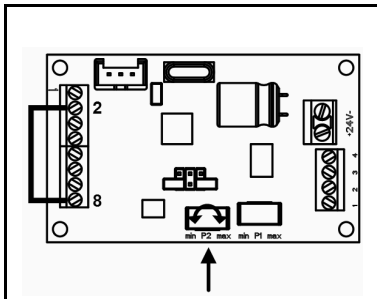

Fig. 8: No external volume control
- Connect COM 8 to COM 2 with a wire (see fig. 8)